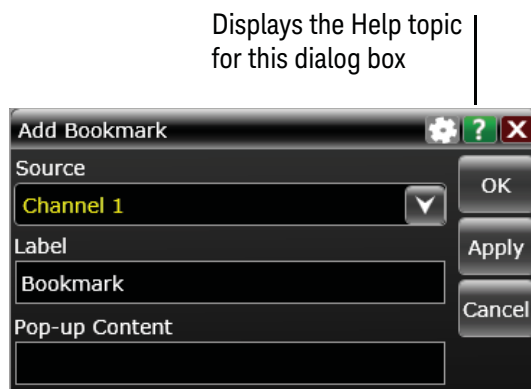

Figure 25 Help button for dialog box help
- Click the question mark near the top right corner of a dialog box to open to the help topic for that dialog box (**Figure 25**).